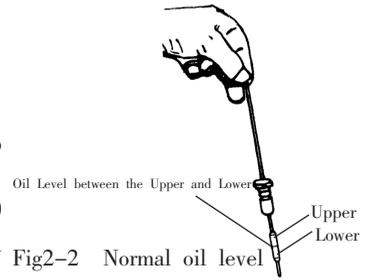
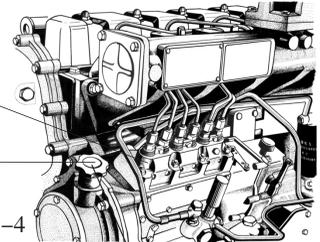

Fig2-3
Fig2-4
1.2.4 For different configurations, the engines adopt various kinds of injection pumps, some of injection pumps adopt lubricating separated from the engine, such as ZHB pump. When adding the oil, loosen upper limit screw and add the lubricant from oil filler (see Fig2-3), do not tighten the limit screw until the oil in limit hole appears (see Fig2-4).